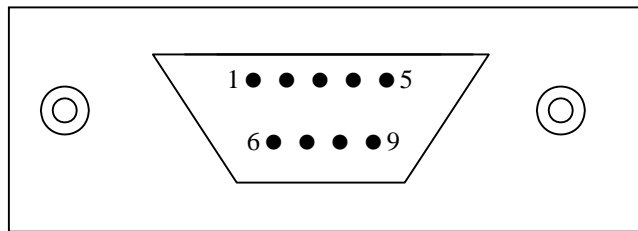

Fig. 1-9: Serial Connection
2.1.12 Serial Interface: A 9-pin serial interface is provided on the rear of the system that allows machine-to-machine interface. Pin out of serial interface is as shown in Fig. 1-9.